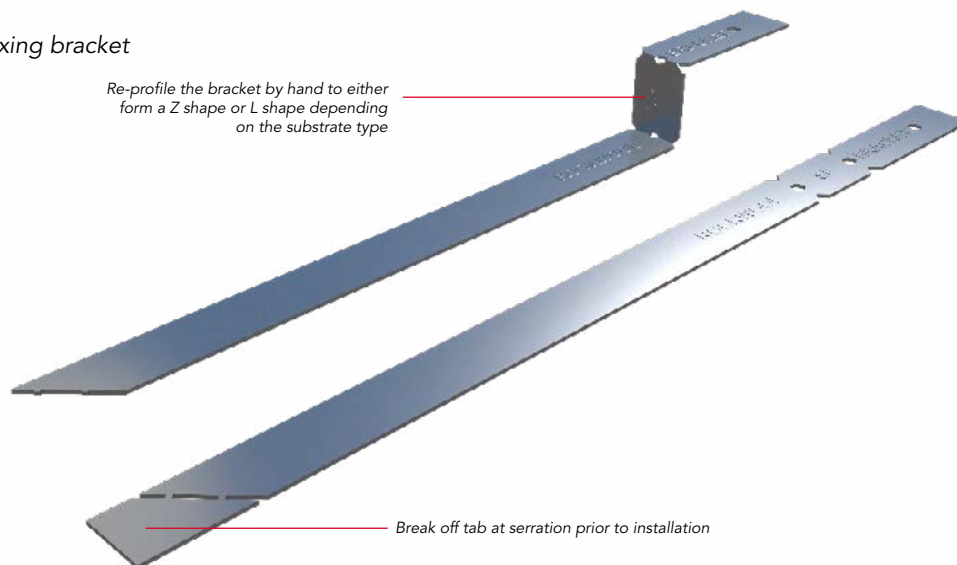

Figure 3
4. Secure the SP Fixing Brackets to the substrate using metal fixings appropriate to the substrate (Figures 3 to 6).
5. a) Horizontal orientation: Foil tape should be applied to all joints on the upper face of the SP FireStop EN strips (Figure 3).